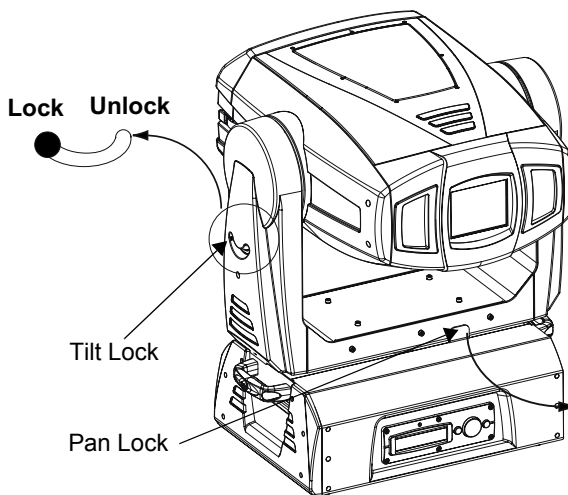

Figure 2-9 Pan and Tilt Locks
1. Position the projector head as shown in Figure 2-9 to pack it in the road case.